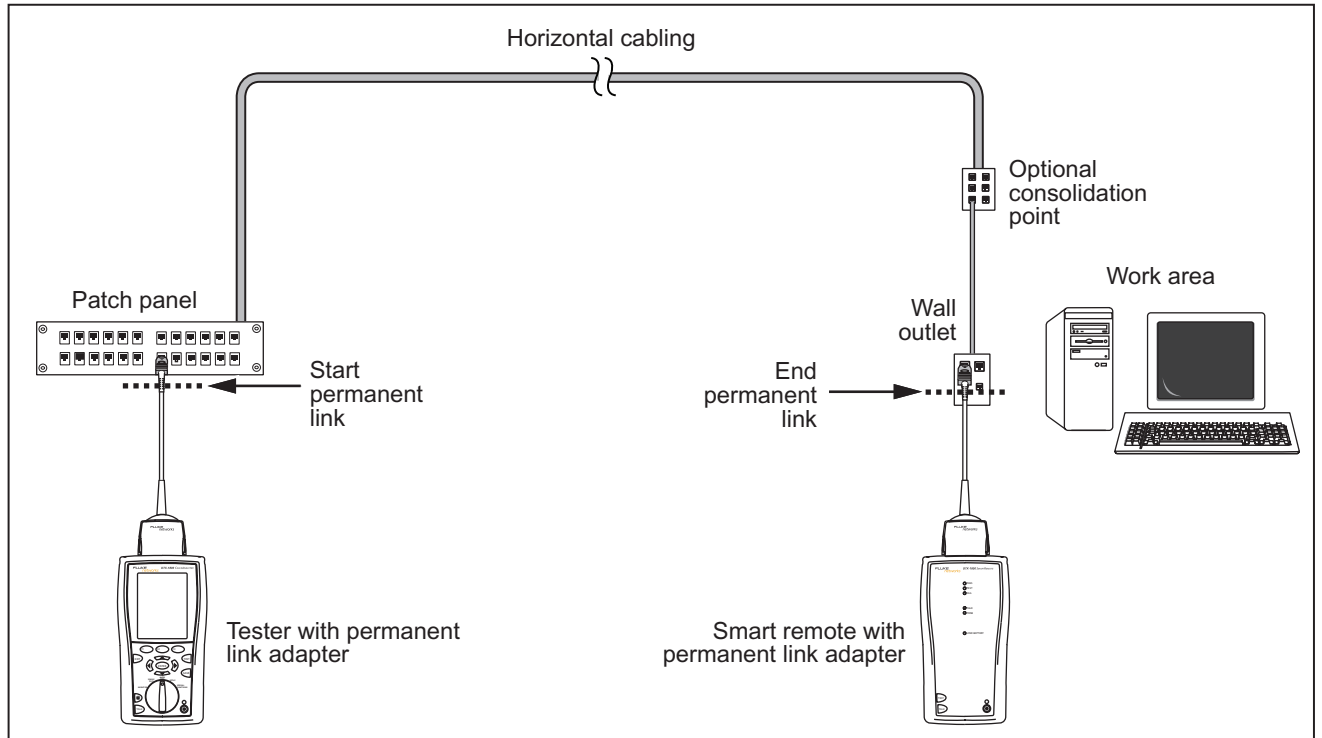
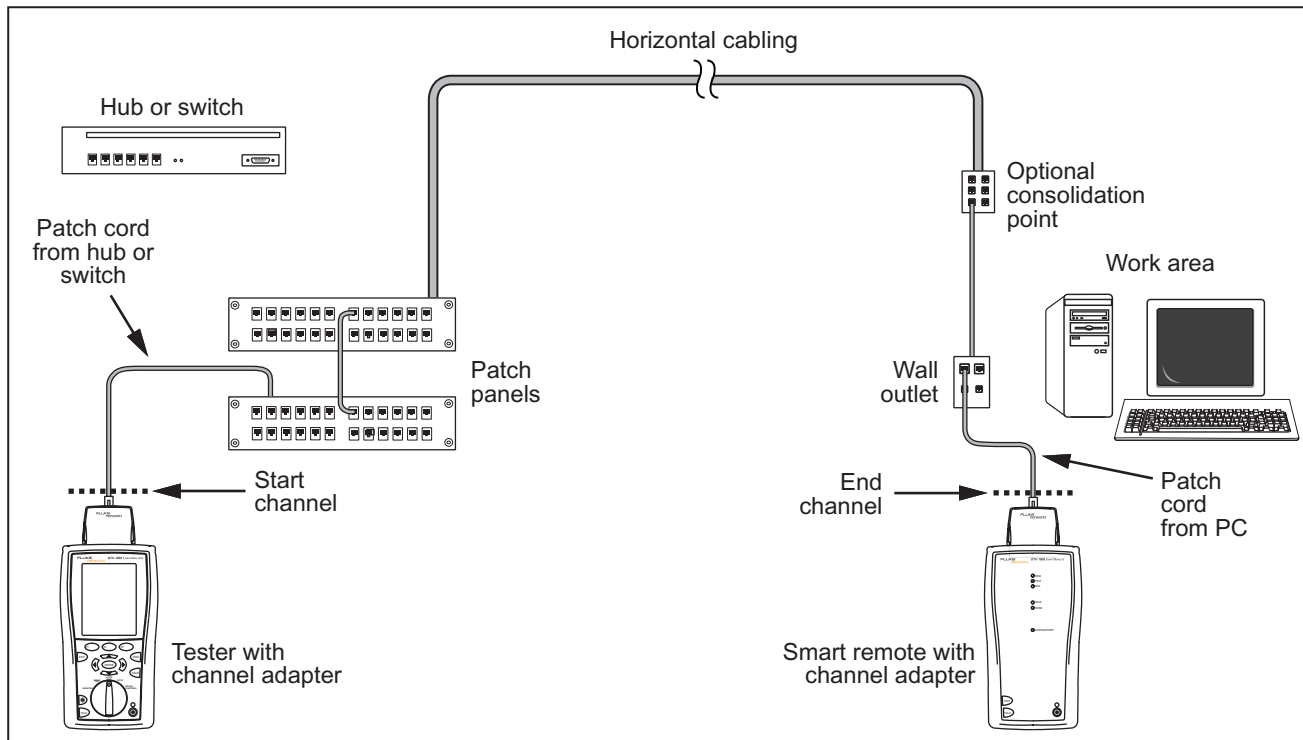

Figure 11. Permanent Link Test Connections
Figure 12. Channel Test Connections
- 3 Turn the rotary switch to **AUTOTEST** and turn on the smart remote. Connect to the cabling, as shown in Figure 11 for a permanent link or Figure 12 for a channel.